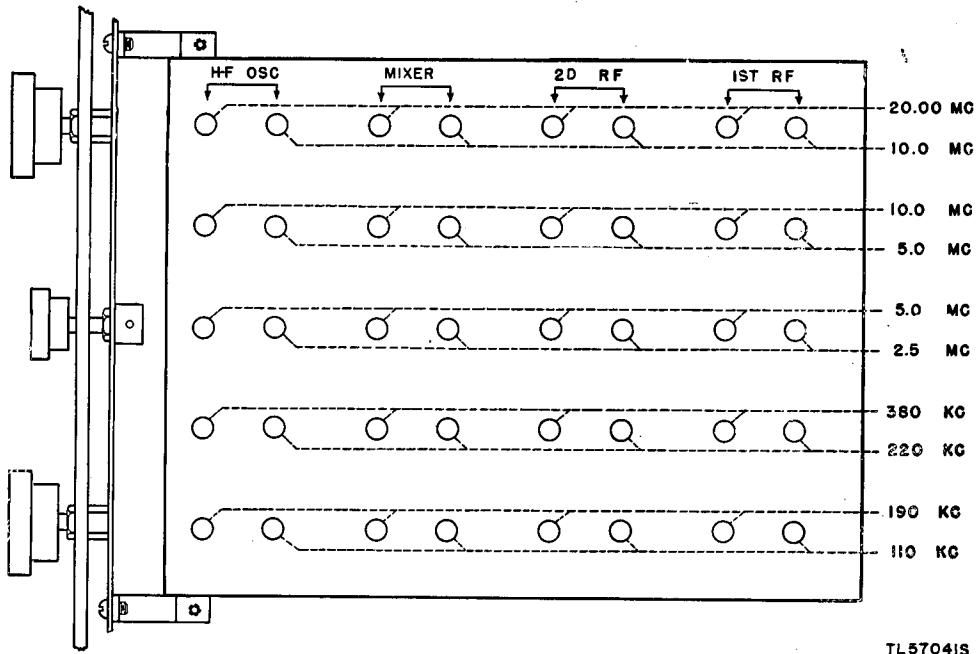

Figure 46. Radio Receiver BC-779-(*), alinement chart.
shown in figures 46, 47, 48, and 49, respectively. If necessary, the second harmonic can generally be used when the fundamental frequency is not available. For example, a signal generator covering all frequencies from 100 kc to 20 mc, in addition to being ideal for checking Radio Receiver BC-779-(*), could be used to check Radio Receiver BC-794-(*), by using the second harmonic of 20 mc instead of the 40 mc called for in figure 47. The signal generator should have an output of about 100 microvolts and an output impedance of approximately 100 ohms for best results when aligning the r-f and h-f oscillator circuits. For i-f alinement these values are not critical. The frequency calibration of the signal generator is extremely important in order that the receiver dial calibration be correct.
b. To correct dial calibration, refer to an alinement chart, figure 46, 47, 48, or 49 for the location of the h-f oscillator adjustments as well as the signal frequencies at which the settings should be made. If the 2.5- to 5.0-mc band is to be corrected, the signal generator may be *accurately* set to 2.5 mc and its second harmonic (if strong enough) used for the 5.0-mc end of the band. In either case, whether the 5.0-mc frequency is the fundamental or second harmonic, the 5.0-mc frequency *must* be accurate. This requires that the setting of the signal generator be accurately adjusted by the use of a frequency meter as described in paragraph 94. The output of the signal generator should be unmodulated and the SIGNAL MOD-CW switch on the receiver turned to CW. Set the BEAT OSCILLATOR control at 0, the AUDIO GAIN at 10, and the AVC-MANUAL switch on MANUAL. Disconnect the output meter and use headphones or loudspeaker to make the necessary adjustments by the zero beat method. Connect the signal generator to the antenna terminals for this test.
c. Set the receiver MAIN TUNING dial to the 5.0-mc end and then tune it to zero beat with the 5.0-mc output of the accurately calibrated signal generator. Notice the approximate dial error. Then turn the MAIN TUNING dial slightly toward the 5.0-mc calibration line until the beat note rises to a high pitch. Do not turn the dial far enough to raise the beat note so high that you cannot hear it. With the alinement screw driver adjust the trimmer capacitor marked H-F OSC-5.0 MC (fig. 46, 47,
48, or 49) until the beat note is again zero. Turn the MAIN TUNING dial still farther toward the 5.0-mc line and make a further adjustment of the trimmer capacitor to return to zero beat. Repeat this procedure as many times as necessary to bring the dial to exactly 5.0 mc. (It is evident that the dial could be set at once on exactly 5.0 mc and the trimmer turned enough at one time to produce zero beat, but the step-by-step method is recommended). Accurately set the signal generator to 2.5 mc by calibrating it with the frequency meter. Then tune in the 2.5-mc signal at the l-f end of the MAIN TUNING dial and correct the calibration step-by-step, as before, using the inductance trimming adjustment H-F OSC-2.5 MC (fig. 46, 47, 48, or 49). Accurately set the signal generator for an output of 5 mc again, and tune the receiver to this frequency. It will be found that the adjustment of the inductance at 2.5 mc has changed the correction previously made at 5.0 mc. This is perfectly normal, because an adjustment at one end of the dial also affects the other end of the band. It will therefore be necessary to go back and forth several times from 2.5 to 5.0 mc in order to bring both ends of the dial scale into exact agreement with the signal frequency. Be sure that the signal generator is always *accurately* set.
c. Starting with the 2.5- to 5.0-mc band, set the MAIN TUNING dial at 5.0 mc (band spread dial at 100) and adjust the frequency of the signal generator for peak deflection of the output meter. Then check and adjust the setting of the trimmer marked MIXER and 5.0 MC in figure 46, 47, 48, or 49 for maximum reading on the output meter. Repeat this procedure on trimmers indicated as 2D RF and 1ST RF in the same row. If readjustments on one of these settings result in a sizable increase in output meter reading, slightly alter the SENSITIVITY control to reduce the reading to half-scale. After each adjustment check the tuning of the receiver to make sure that the test signal is still accurately tuned. The BAND SPREAD control may be used as a vernier for this purpose in those bands in which it operates (par. 15c). *This tuning check is extremely important at the high end of the 10- to 20-mc and 20- to 40-mc bands where there is some slight interaction between the mixer and h-f oscillator circuit.* After checking the three trimmers at the high end of this band, turn the MAIN TUNING dial to 2.5 mc and retune the signal generator to suit. Then check the three inductance adjuster settings marked 2.5 mc in the same row. Since adjustments at one end of a band also affect the other end of that band, it will be necessary to repeat the above procedure until no further improvement can be secured. The number of repetitions necessary will depend on how much mistuning existed to start with. Check the rest of the bands in the same manner.